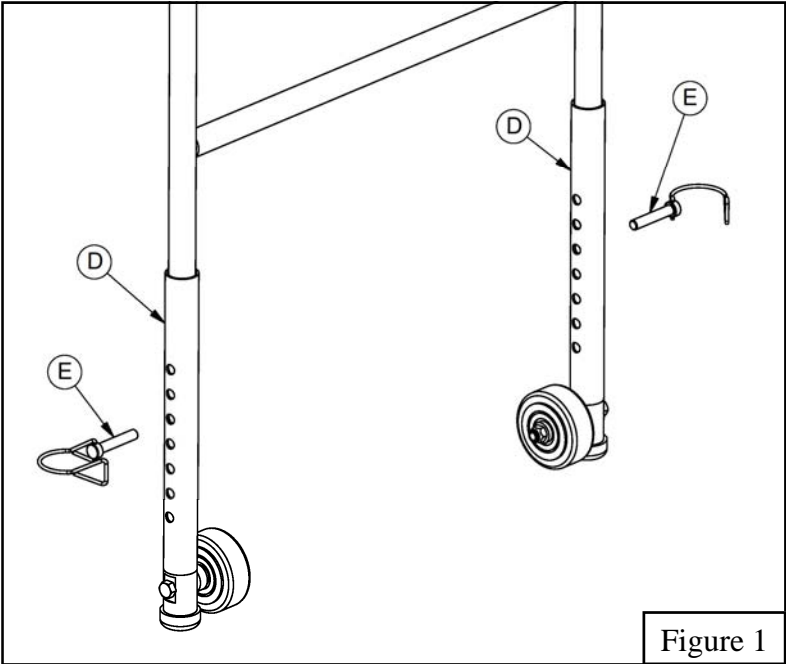

Figure 1
2. Adjust the height of the *Official's Stand* (A) so that the first referee's head is approximately 2 to 3 feet above the net. Remove the *Locking Pins* (E) slide the *Adjustable Tubes* (D) evenly to the desired position and re-insert the *Locking Pins* (E) to hold them in place. See Figure 1